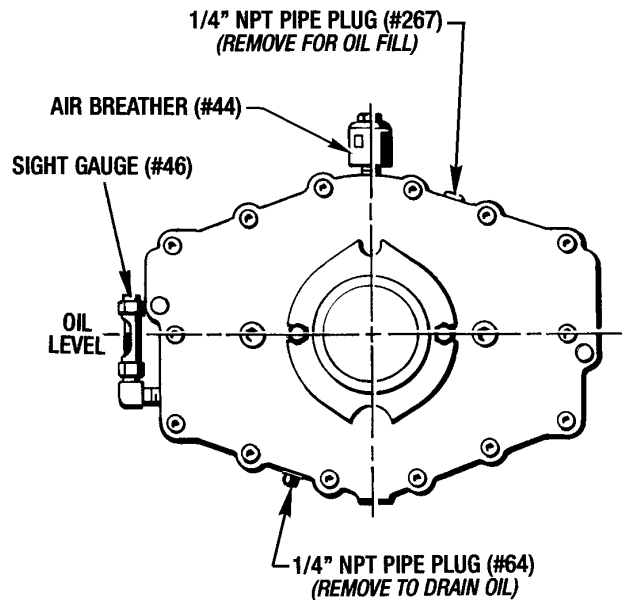

Figure 4.1 - Lubrication
(See Figure 4.1)
Check the oil level when the brake is initially installed and weekly thereafter or until experience dictates otherwise. Always check the oil with the brake stationary (not running). The oil level is to be as shown in Figure 4.1.
3. Fill the brake to the proper level as shown in Figure 4.1.